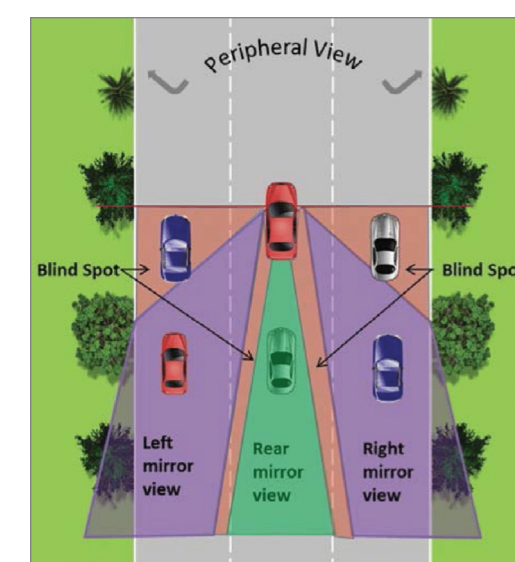

Figure 2: Car Blind Spots
Team SPOT combined entrepreneurial techniques to come up with a solution to a current problem. The different steps [Fig. 2] were crucial to the development and improvement of Eagle Eye.
- [2] Car Blind Spots: https://www.researchgate.net/figure/Blind-spot-around-a-vehicle_fig2_319851766